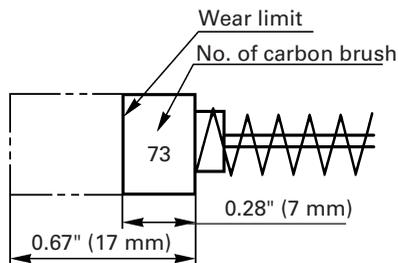

Fig. 20
## 4. Inspecting the carbon brushes: (Fig. 20)
**NOTE:** Use HITACHI carbon brush No.73 indicated in Fig. 20.